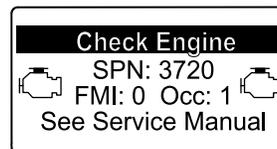

**Figure 69**
1. Remove the oil-drain plug (Figure 69) and let the oil flow into a drain pan. When all the oil is drained, install the drain plug.
2. Remove the oil filter (Figure 69). Apply a light coat of clean oil to the new filter seal before screwing it on. **Do not overtighten.**